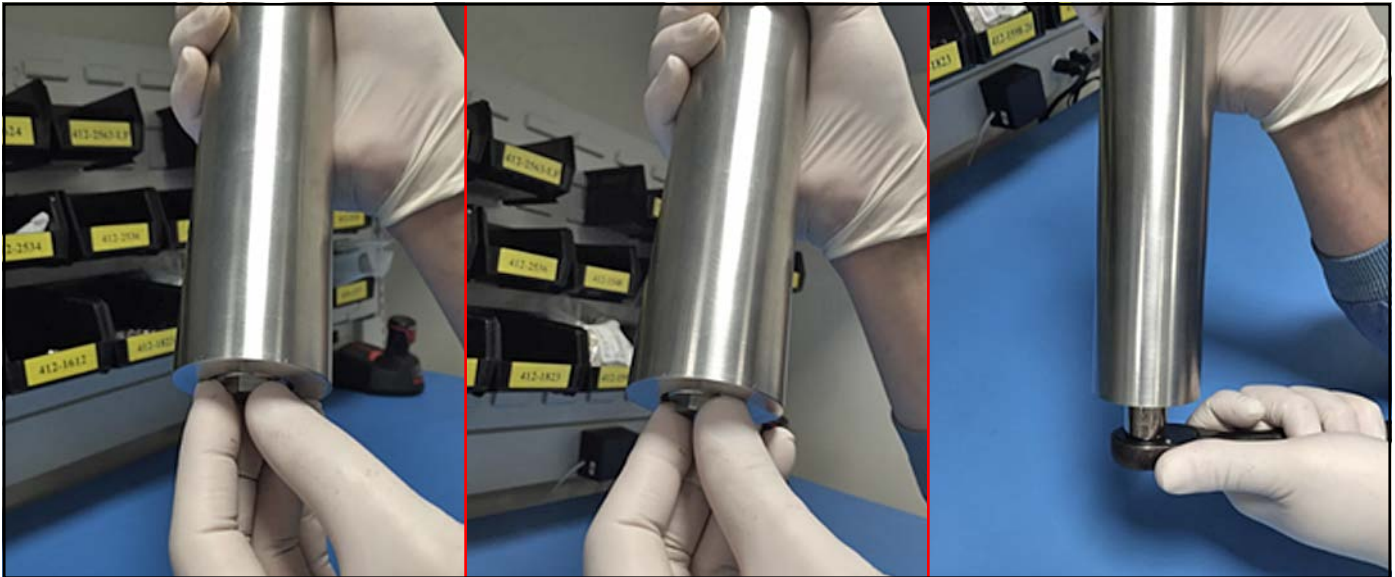

Figure 98: Replacing Mirror End Cap Assembly into the Absorption Cell
13. Using tweezers, insert the mirror into the hole on top of the shim, with the gold-plated side facing up. Thread the end cap into the bottom of the absorption cell tube. Secure the threaded end cap in place with a 5/8" socket wrench (see *Figure 98* below).